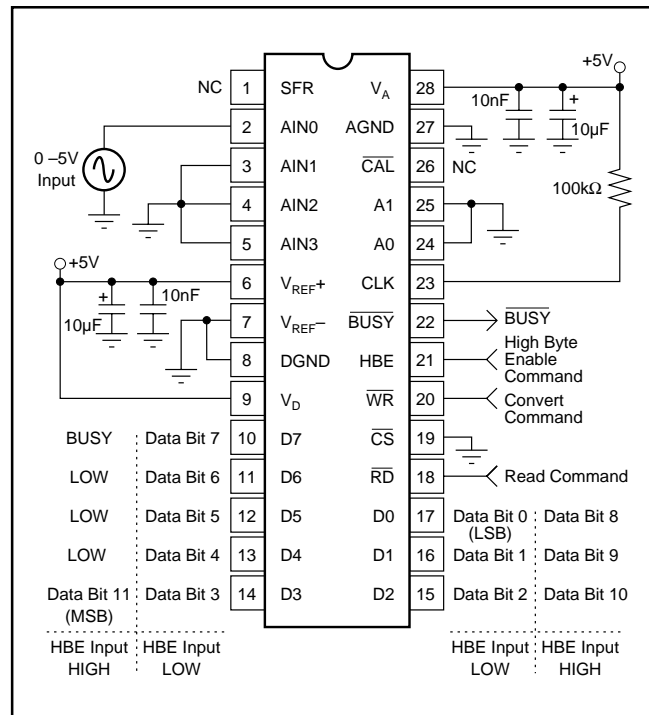

FIGURE 1. Basic Operation.
Figure 1 shows the simple circuit required to operate ADS7832 in the Transparent Mode, converting a single input channel. A convert command on pin 20 (\overline{WR}) starts a conversion. Pin 22 (BUSY) will output a LOW during the conversion process (including sample acquisition and conversion), and rises only after the conversion is completed. The two bytes of output data can then be read using pin 18 (RD) and pin 21 (HBE).